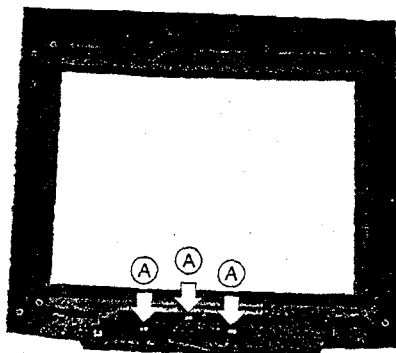

Figure 2-6 Remove the Control Board
1. Remove the three screws from the control board. Refer to the figure 2-6 (A).